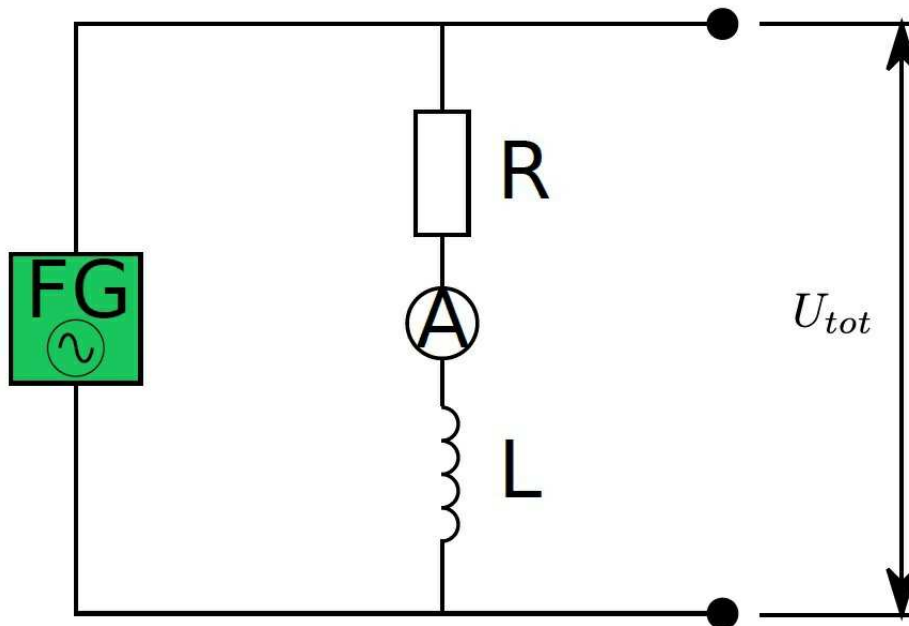
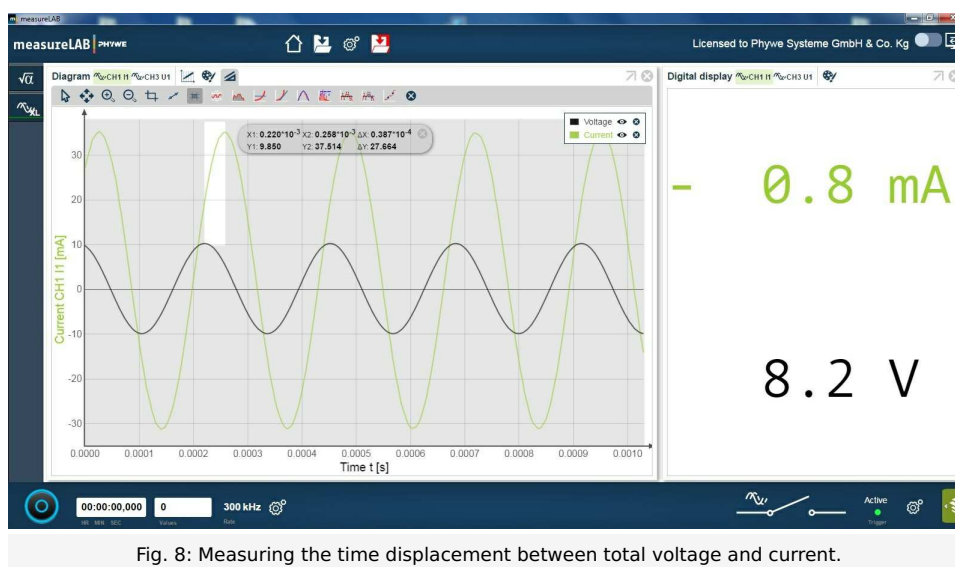

Fig. 3: Set-up for phase displacement measurement.
Fig. 8: Measuring the time displacement between total voltage and current.
- Disconnect the energy supply and rebuild the circuit according to figure 3.
The phase displacement between the total voltage and the total current can be measured using a circuit shown in fig. 3. Use the "Survey Function" of measureLAB as it is shown in fig. 8 for the measurement of time displacements.